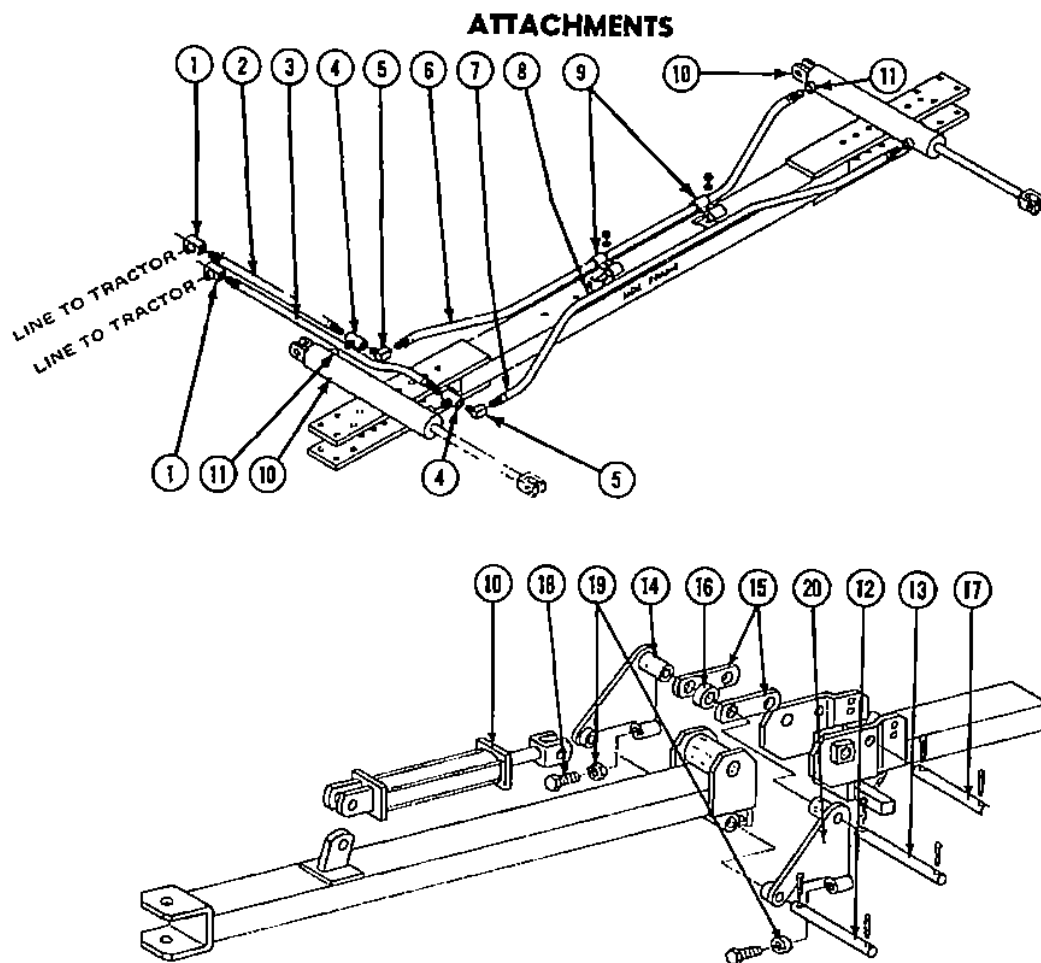

FIG. 14 — HYDRAULIC FOLDING ATTACHMENT (COMPLETE)
See Figure 14
1. Connect the right and left hydraulic wing lock (Item 14 and 20, Fig. 14) to the gang frame by using the hinge pin (Item 12, Fig. 14). Insert the two $\frac{3}{8}$ "x2" cotter pins in the hinge pin to secure the right and left hydraulic wing locks.
6. Connect the flow restrictor (Item 11) to the butt end of the hydraulic cylinder as shown by the arrow in Fig. 14. Connect the hydraulic tees (Item 4) to the four ports in the front hydraulic cylinders. Connect the two hydraulic hoses (41" long) (Item 2) to the inside hydraulic tee of the cylinder. Connect the two hydraulic hoses (60" long) (Item 3) to the outside tees of the hydraulic cylinder. Connect the two (41" long) hoses together with the all female hydraulic tee (Item 1). Connect the two (60" long) hydraulic hoses together with the all female hydraulic tee (Item 1). Connect the 90° hydraulic street ell (Item 5) to the hydraulic tee on the front hydraulic cylinder. Connect the (84" long) hydraulic hose (Item 6) to the butt end of the front hydraulic cylinder. Connect the other end of the 84" long hydraulic hose to the butt end of the rear hydraulic cylinder. Connect the (105" long) hydraulic hose (Item 7) to the rod end of the hydraulic cylinder. Connect the other end of the hose to the rod end of the rear hydraulic cylinder. Connect the hydraulic hose (Items 6 and 7) to the side frame with equal slack between front and rear with the hose clamps (Item 9). Tighten clamp down to secure hose.
7. Extend the hydraulic cylinder rod to the full length. Adjust the adjustment bolts (Item 18, Fig. 14) so that they are snug, not tight, on the wing lock bar. Lock the adjustment nut (Item 19).